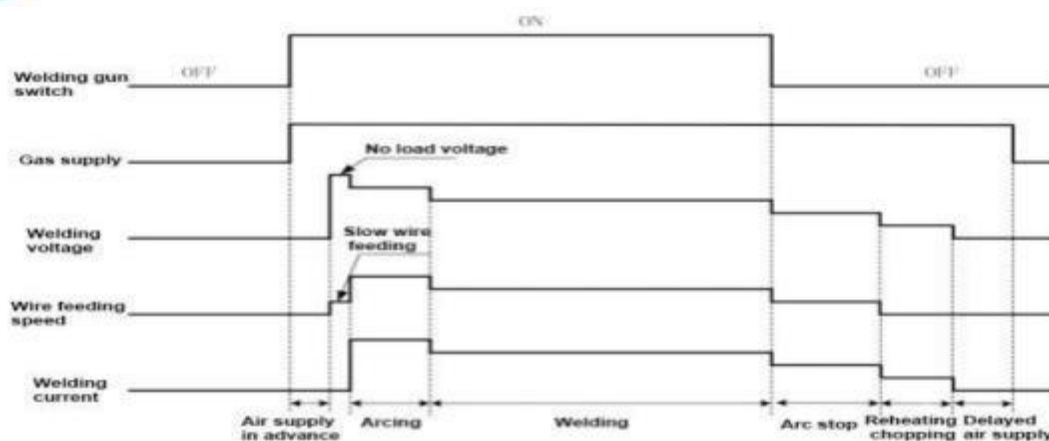

Figure 18.4 Sequence diagram of welding voltage control
Step 2: set the time parameters of voltage control in each operation step in the welding process, as shown in Figure 18.3. The time parameter description and recommended values are shown in Table 18.1. Figure 18.4 shows the sequence diagram of welding voltage control.